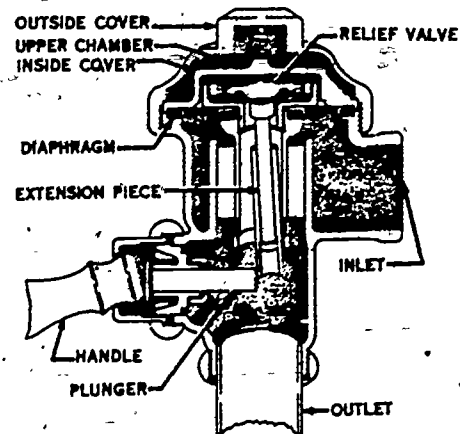

Figure 24. Diaphragm-Type Flushometer
**DIAPHRAGM TYPE.** The diaphragm-type flushometer valve, see figure 24, contains two chambers separated by a relief valve mounted on a rubber diaphragm. The upper chamber is directly connected to the main water supply by a bypass. The lower chamber is connected to a large diameter supply pipe which is usually 1 inch or more in diameter. When the valve is operated, the relief valve is moved to the open position, discharging the water from the upper chamber. Inequality of the pressures to which the two sides of the diaphragm are exposed forces the diaphragm to lift off its seats admitting water from the supply inlet into the closet bowl. Within a predetermined interval, sufficient water forces itself through the bypass into the upper chamber, moving the diaphragm down onto the seat and closing the flow of water to the bowl.